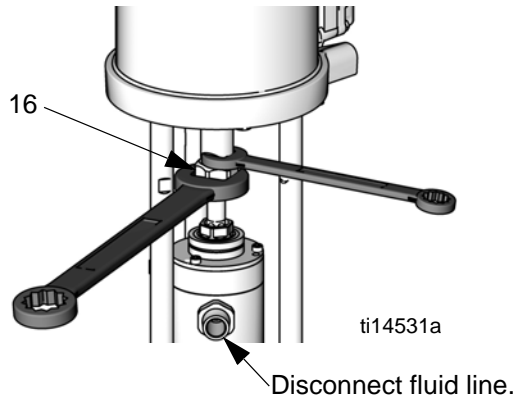

Fig. 26. Loosen the coupling nut
2. Disconnect the fluid line from the pump outlet. See FIG. 26.
3. **Merkur Pumps:** Remove the tie rod shield (26).